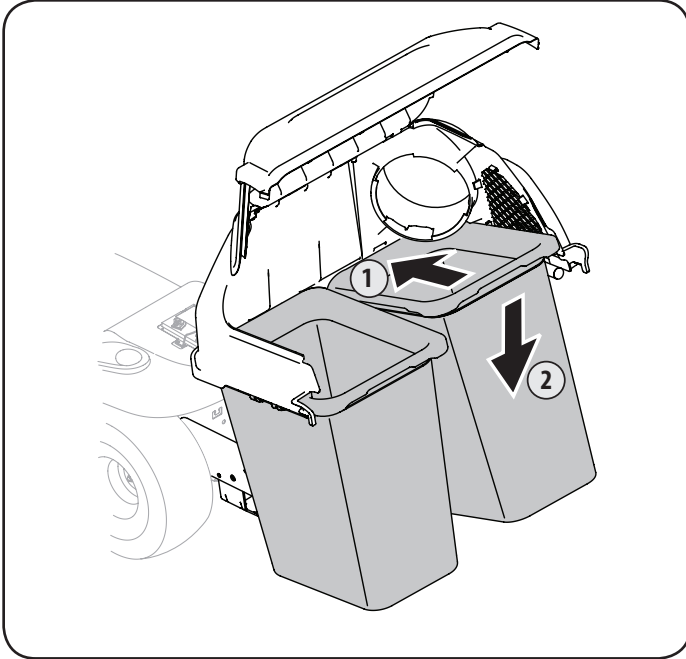

Figure 18
7. Install both grass bag assemblies, with the tight mesh sides facing forward, onto the bag support brackets by inserting the front edge in first, as shown in Figure 18, and setting the back edge down until it fits into the assembly.